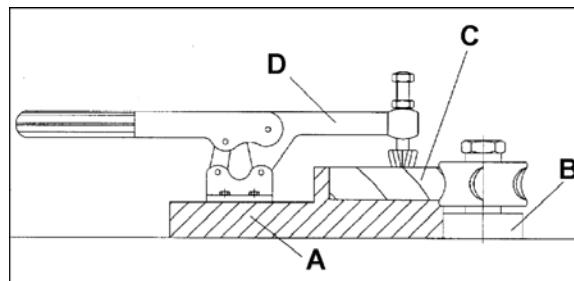

Figure 34
- Prepare the jig (A, Figure 34) to accomodate your original workpiece.
- Place the jig (A, Figure 34) against the table ring guide shoulder (B, Figure 34).
- Fasten the new workpiece (C, Figure 34) on the jig (A, Figure 34) with the clamp (D, Figure 34) and push the assembly past the cutter.